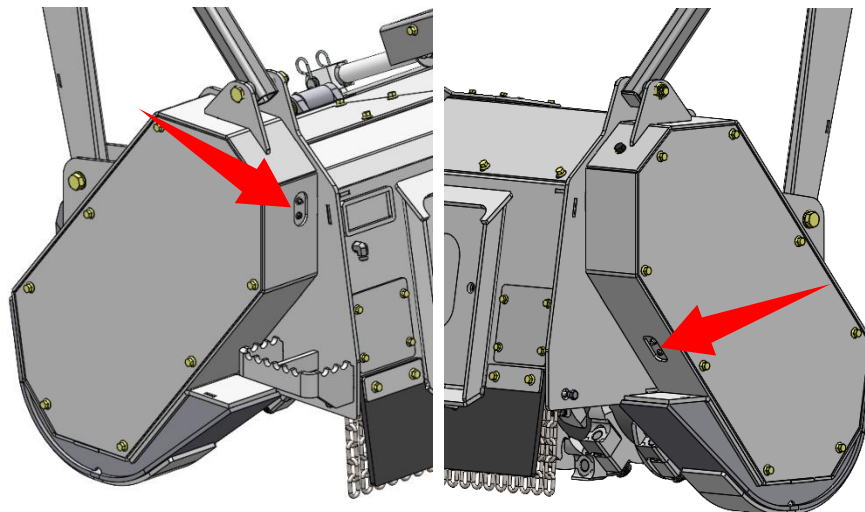

Figure 9
Pump 3 – 4 shots of grease into each of the two (2) grease fittings labeled "8 hour" located on each side of the mulcher. See Figure 9 on page 27. The "8 hour" grease fittings lubricate the cutting drum bearings.